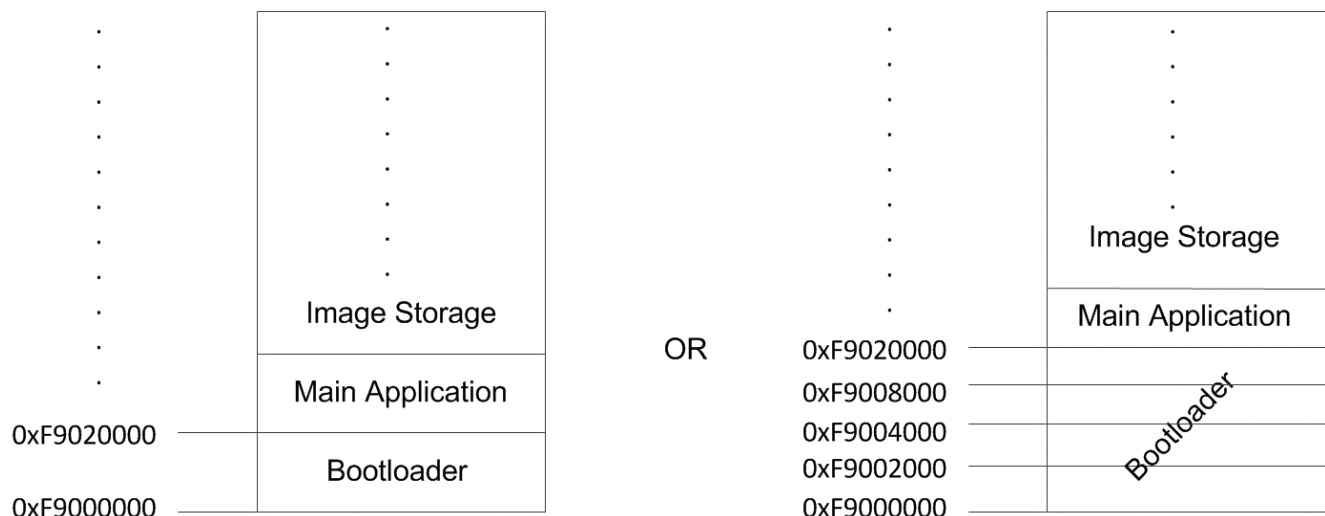

Figure 21. Boot Flash Memory Layout
All applications require both the controller and DMD components for reliable operation. The system uses an external parallel flash memory device loaded with the DLPC900 configuration and support firmware. The external boot flash must contain a minimum of 2 sectors, where the first sector starts at address 0xF9000000 which is the power-up reset start address. The first 128kB is reserved for the bootloader image and must be in its own sector and can be made up of several smaller contiguous sectors that add up to 128kB as shown in Figure 21. The remaining sectors contains the rest of the firmware. The default wait-states is set for a flash device of 120-ns access time. For a faster flash access time, refer to the Program Memory Flash Interface on how to program new wait-state values.
- PM_CSZ_1 – dedicated CS for boot flash device (≤ 128 Mb). Refer to the Figure 21 for the memory layout of the boot flash.